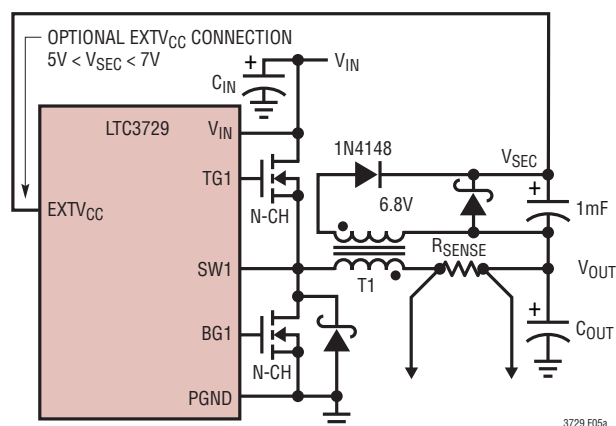
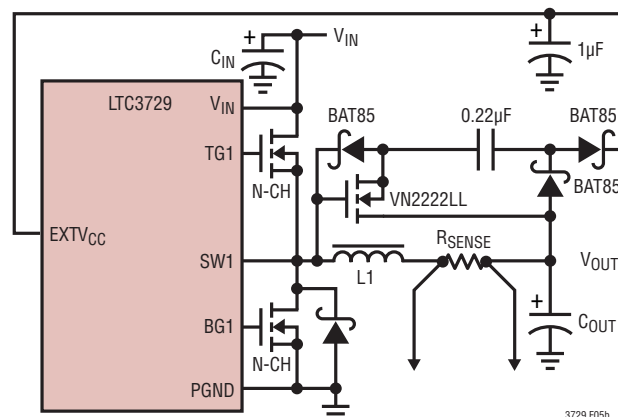

Figure 5a. Secondary Output Loop and EXTVCC Connection
Figure 5b. Capacitive Charge Pump for EXTVCC
4. EXTV_{CC} connected to an output-derived boost network. For 3.3V and other low voltage regulators, efficiency gains can still be realized by connecting EXTV_{CC} to an output-derived voltage which has been boosted to greater than 4.7V but less than 7V. This can be done with either the inductive boost winding as shown in Figure 5a or the capacitive charge pump shown in Figure 5b. The charge pump has the advantage of simple magnetics.